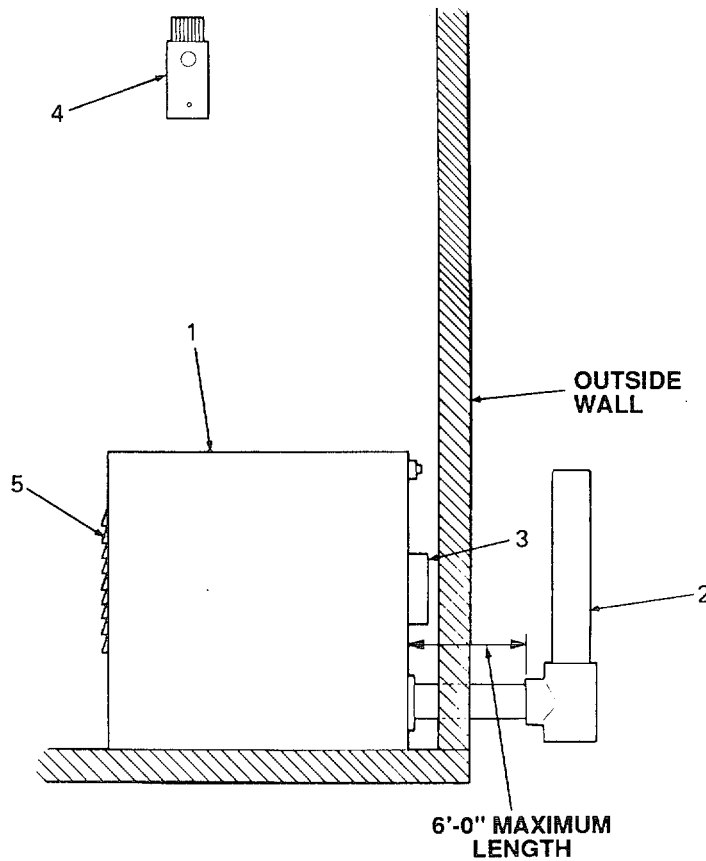

Figure 4-1. Typical Exhaust Connection.
- (1) Locate the heater near an outside wall so the exhaust can be piped to the outside with a short direct run (Figure 4-1). The total length of the horizontal run of the exhaust pipe should not exceed 6 feet.
- (2) Position the heater at approximately the same level as the fuel source. It should never be positioned more than 7 feet above the fuel source.
- (1) See Figure 4-1. Secure heater (1) to base of floor (or wall) using 1/2-20 bolts of suitable length.
- (4) Mount and connect the room thermostat (4) to the heater as follows:
- Select a site that is free from drafts and that will not be in line with combustion air inlet (3) or heated air discharge flow (5).
- (b) Remove thermostat cover and mount them thermostat (4) vertically as shown in Figure 4-1.